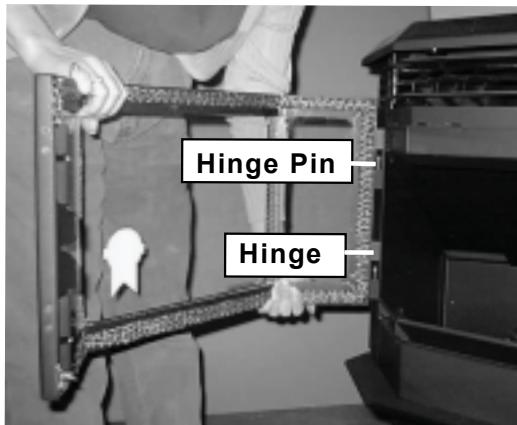

Figure 22.1
2. Line up hinges with hinge pins on appliance body, and slide door down until it sits securely on pins. **Figure 22.1**.